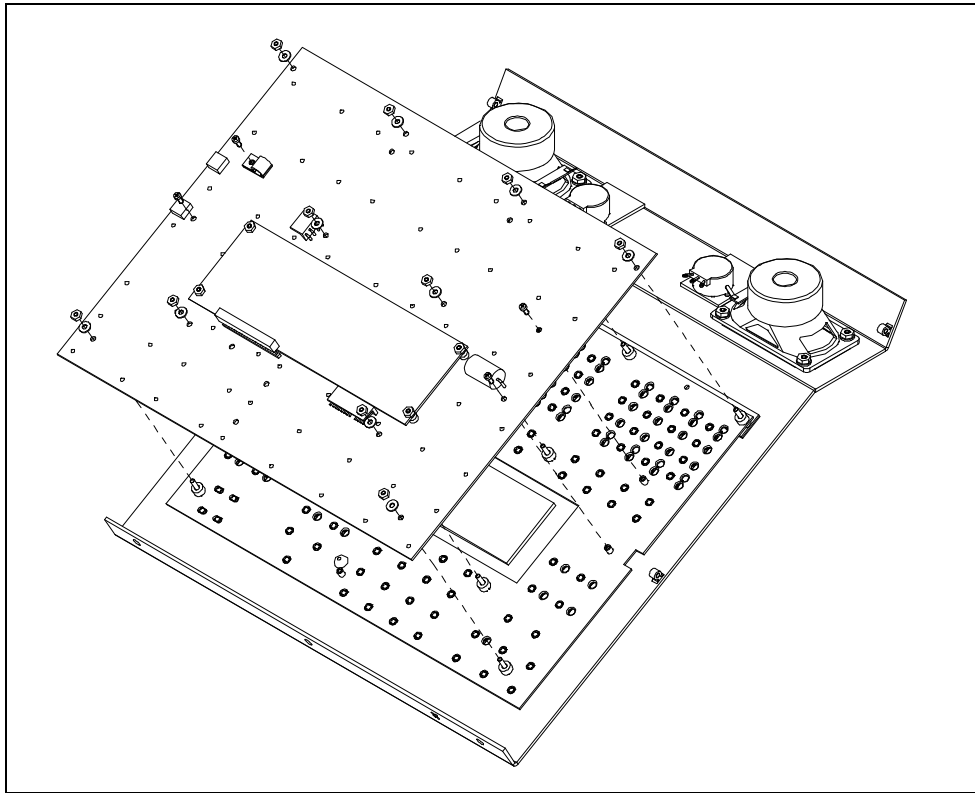

Figure 2. Inside of Front Cover
4. Place the front cover face down on a flat surface. Remove the ten #4-40 hex nuts and four #4-40 screws securing the PCBA. See Figure 2.